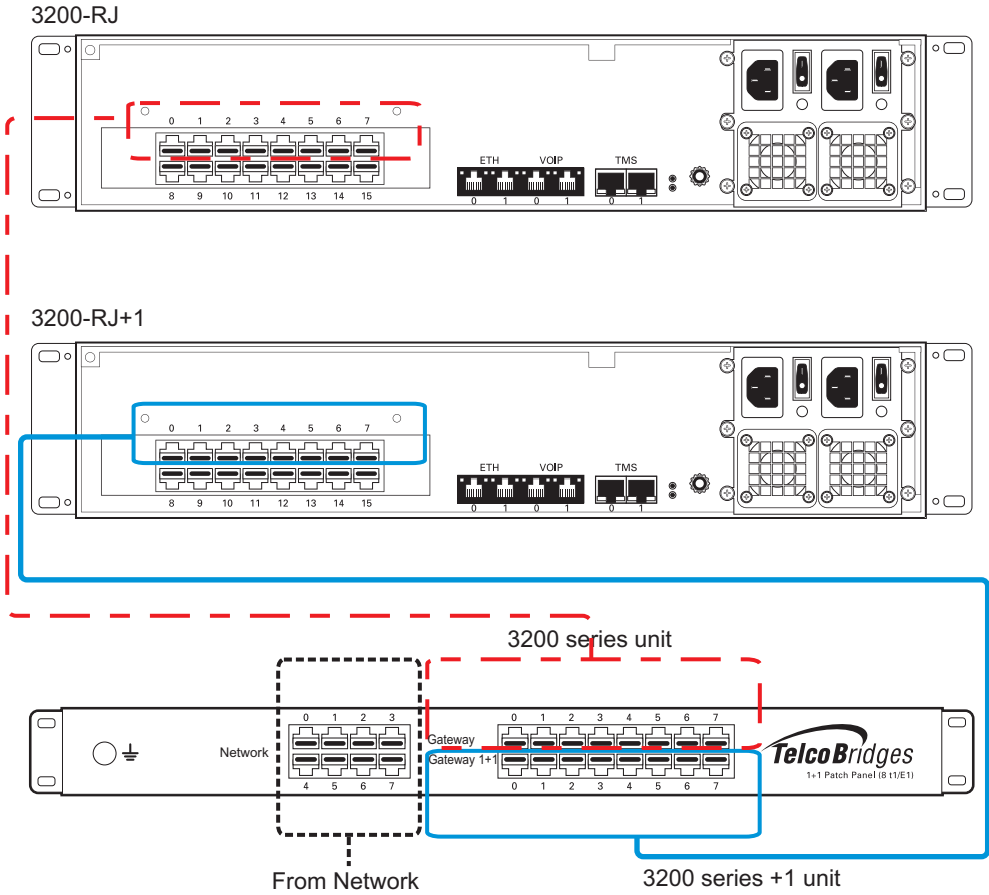

Figure 2.13 3200-RJ and 3200-RJ+1 connecting to the TDM 1+1 8/T1/E1 1+1 patch panel
1. Connect T1/E1 lines 0-7 from the network section of the 1+1 patch panel to the remote equipment. See figure 2.13 on page 35.